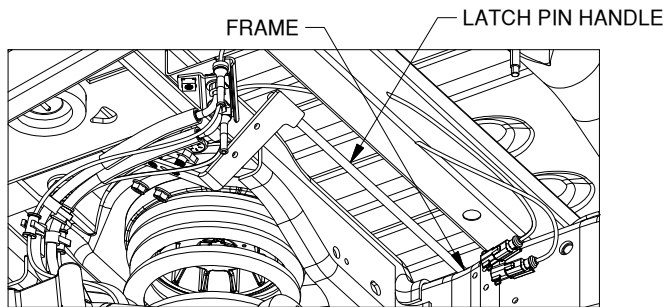

FIGURE D2: Looking back at driver side of center section.
2. **Install the latch pin handle.** Beginning under the vehicle "thread" the end of the handle with the vinyl grip in front of the brake lines and over the frame on the drivers side. Attach the handle to the latching mechanism over the 3/8 carriage bolts with two 3/8 locking flange nuts, see figure D2. Be sure that the handle is in the proper position and that it does not interfere with any other components of the vehicle. Torque the nuts to 30 ft. lbs. to secure the handle.